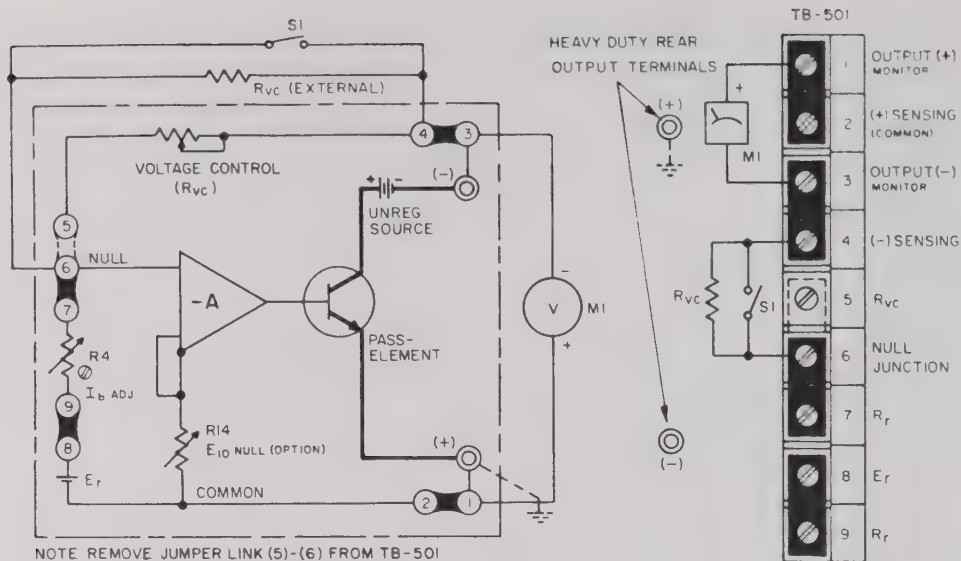

FIG. 3-4 CONNECTIONS FOR PRECISION PROGRAMMING RATIO ADJUSTMENT
3-16 PROCEDURE, PRECISION PROGRAMMING RATIO ADJUSTMENT (Refer to FIG. 3-4)
- Connect calibration set-up as shown in FIG. 3-4 and connect the power supply to the AC power line.